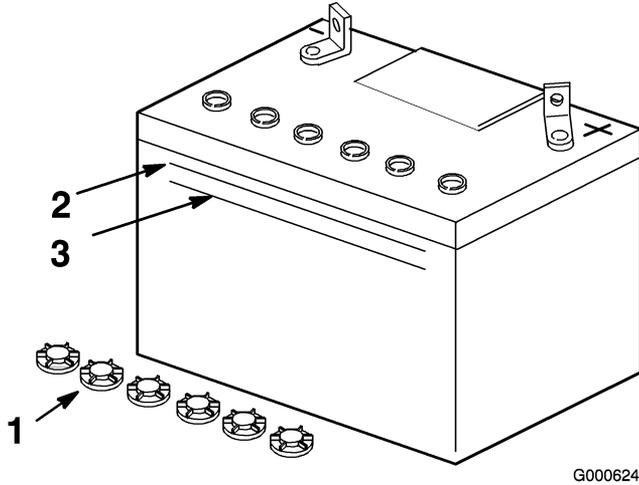

Figure 46
3. Remove the vent caps from the battery (Figure 46).
4. Slowly pour distilled water into each battery cell until the level is up to the upper line (Figure 46) on the battery case.
5. Wait five to ten minutes after filling the battery cells. Add distilled water, if necessary, until the electrolyte level is up to the upper line (Figure 46) on the battery case.